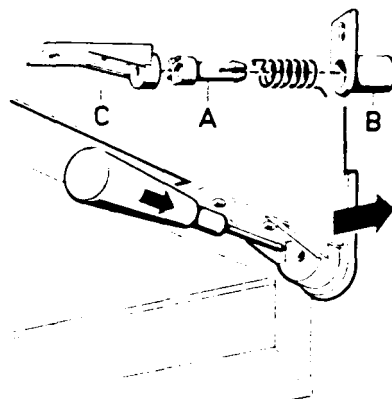
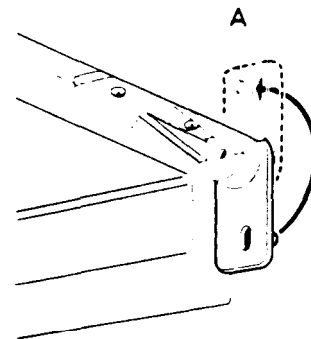

Fig. 27
Fig. 28
1. Push the carrier (A) inwards by means of a blunt mandrel or pin (fig. 27) and remove the shutter.
2. Pry the spring housings (B fig. 27) away from the lining so that it snaps out and turn the spring housings downwards 180° (fig. 28).
3. Mount the new shutter in close position first on one side, making sure that the cross slots engage in the cross on the hinge plate (C fig. 27).
5. Turn the spring housings round and up until the small tag (A fig. 28) snaps into the slot in the lining.